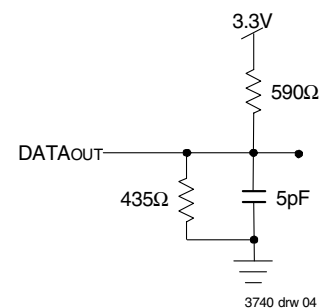

Figure 2. Output Test Load
1. Transition is measured 0mV from Low or High-impedance voltage with Output Test Load (Figure 2).